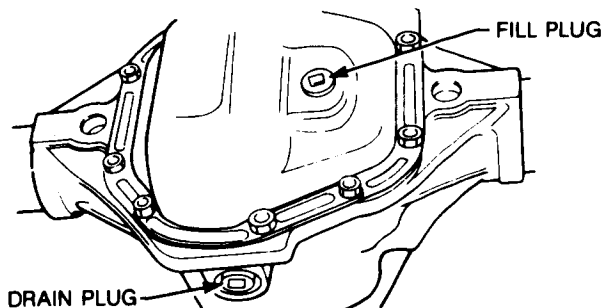

Figure 3-9 Rear axle drain and fill plugs
**330.** The drain plug is located on the bottom of the housing, while the fill plug is located on the rear cover (see Fig. 3-9). Fill the differential with the recommended lubricant to the bottom of the fill hole.